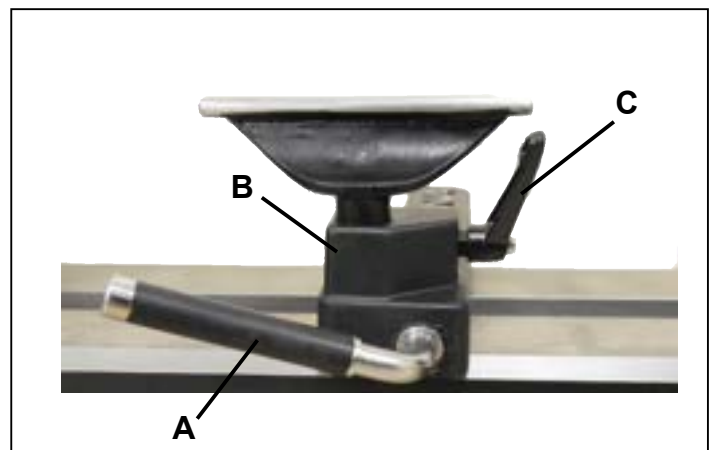

Fig.5.2
1. TOOL REST BODY LOCK HANDLE: (FIG. 5.2, A) This cam action lever handle locks the tool rest base (B) down in position on the lathe bed. Unlock handle to position the tool rest in any location along the lathe bed. Tighten the handle when the tool rest is properly located for safe turning of the workpiece.
2. TOOL REST LOCK HANDLE: (C) Locks the tool rest in position for supporting your tools during turning. Unlock the handle to adjust the tool rest at a specific angle, or height. Tighten handle when properly positioned.